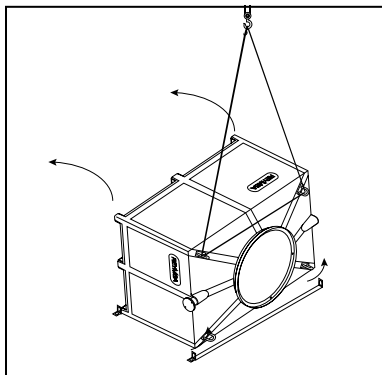

Figure AP-6: Positioning the body section with a crane
- G. Secure the body section from the U-bolts and lift it slowly to set it in position for installation (see Figure AP-6). Maintain a minimum of 60° between the strap and the horizontal. Then assemble the Tower using a crane. Secure the sections with stainless steel bolt and nuts supplied by REYMSA.